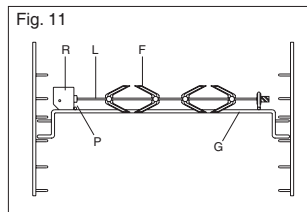

Fig. 11
- Thread the chicken or the cubes of meat for roasting on the spit L , ensuring that it is gripped safely between the two forks F and balancing it properly to avoid unnecessary strain on the transmission R (fig 11).
- Put the spit on the support G, after having introduced its opposite end in the socket P of the transmission R (fig 11)